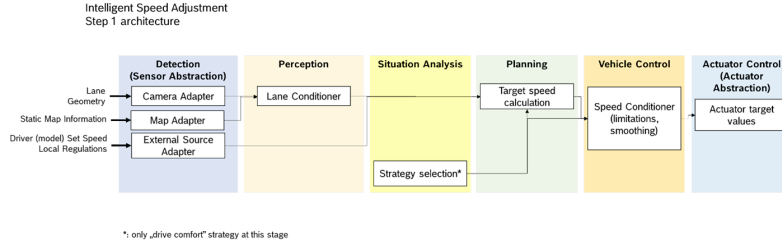

Fig. 8: Architecture components of step 1 functionality of ISA
Step 1 architecture is shown in Figure 8. Note: even if we only control the vehicle